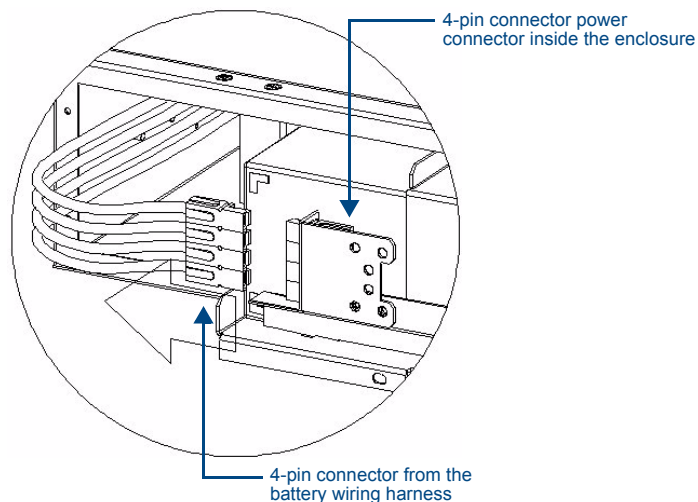

FIG. 4 Connect the battery cable harness to the matching connector inside the unit
4. Connect the 4-pin connector from the battery cable harness to the matching connector inside the unit (FIG. 4).